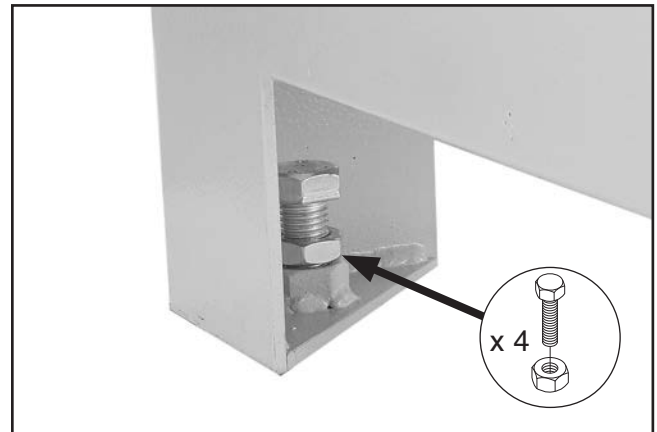

Figure 17. Hex bolt (1 of 4) in stand corner for leveling.
7. If not already installed, thread (1) M16-2 hex nut onto each M16-2 x 40 hex bolt, then thread each bolt into stand corners (see **Figure 17**).